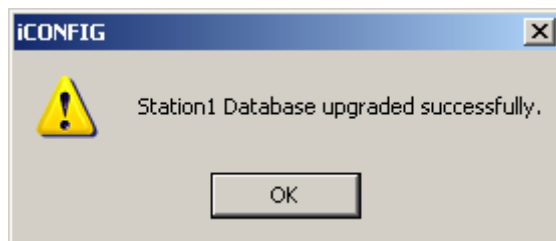

Figure 7-16 Station Database upgraded successfully
3. Select the database revision of the controller to which the configuration will be downloaded. The message in Figure 7-16 will appear when the conversion is finished. (All loops will be maximized after conversion.)